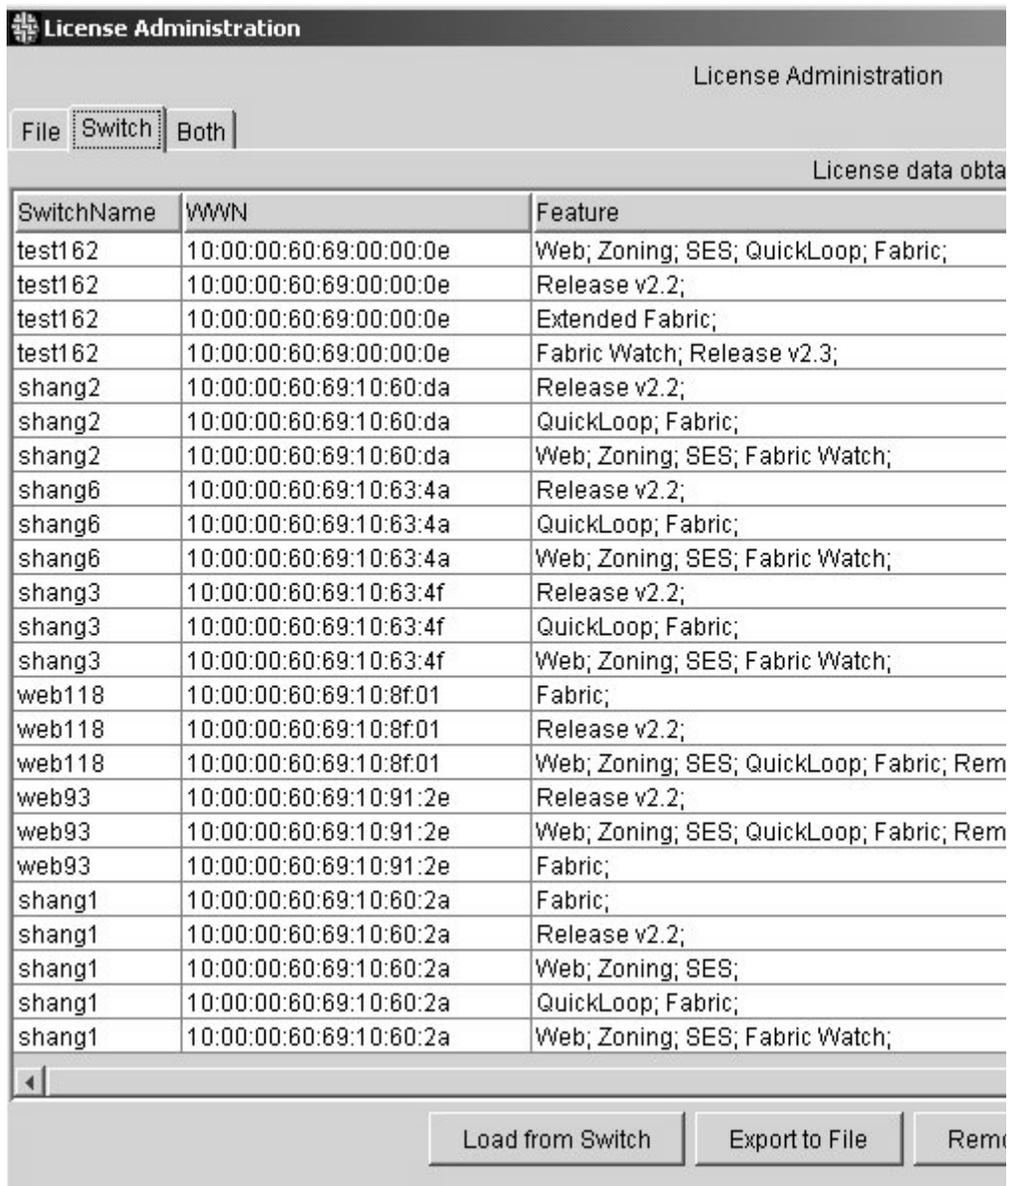

Figure 7-7: License Admin dialog box of the License menu
4. Click **OK**. The **License Admin** dialog box displays, as shown in Figure 7-7.